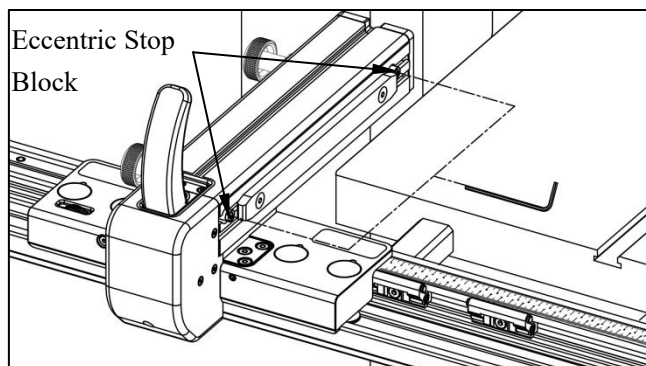

Fig. 21
- To adjust the gap between the fence and table surface, loosen the screws shown in Fig. 21 and rotate the Eccentric Stop Blocks accordingly.